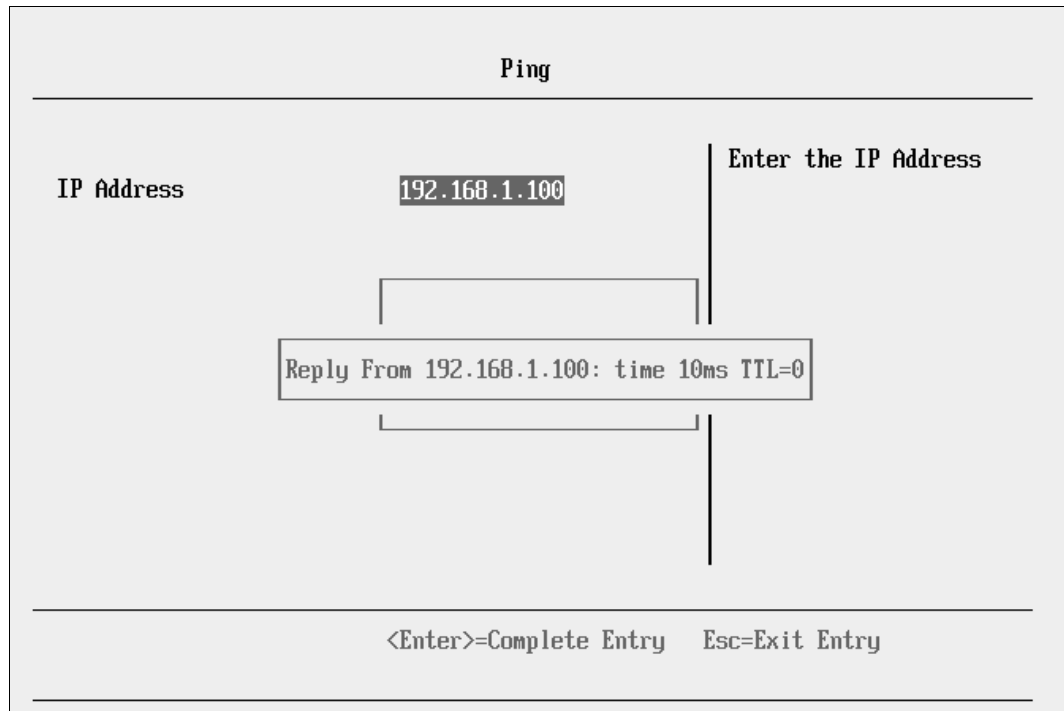

Figure 9-79 Successful ping reply
9. In the Ping panel (Figure 9-79), enter the IP address of your disk storage subsystem. If the connections are working correctly, a reply is displayed (inset in Figure 9-79) that shows the IP address and time.